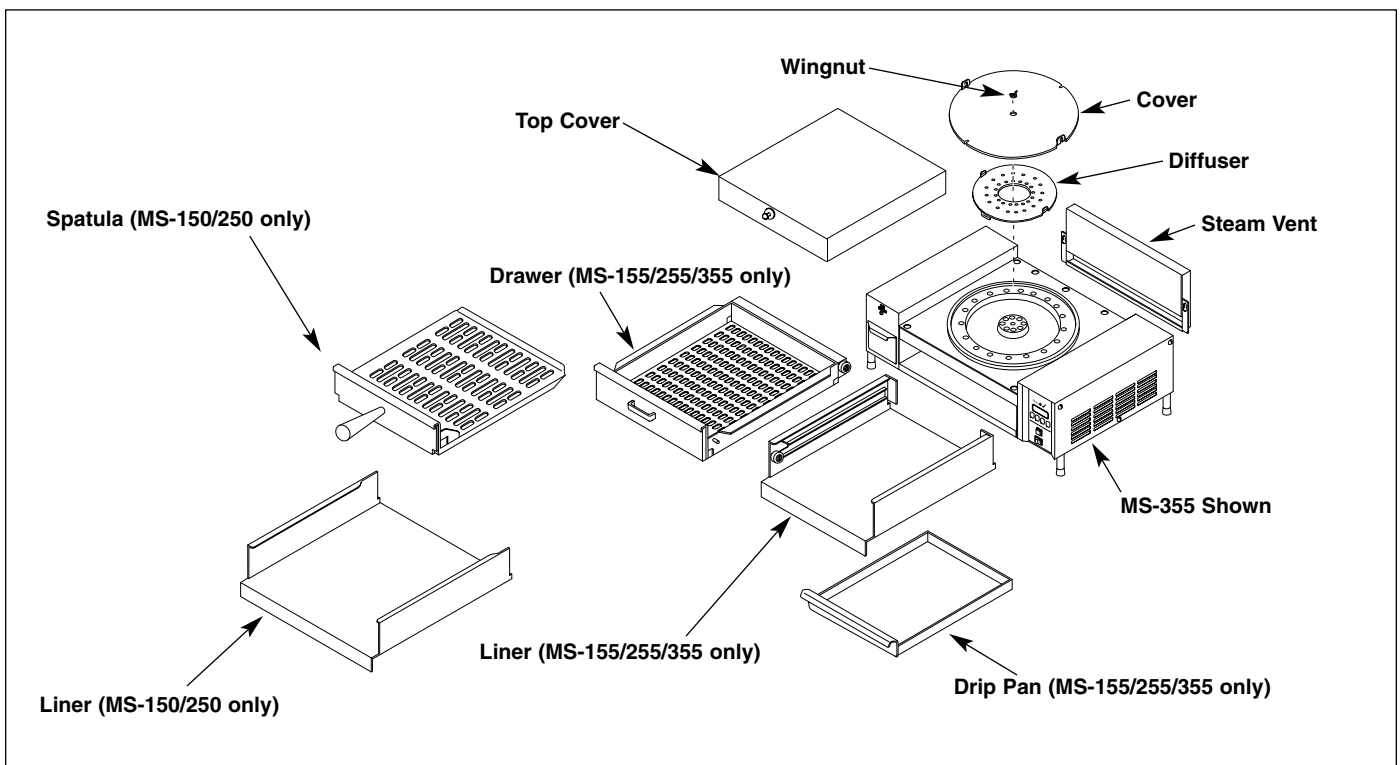

Figure 8. Miracle Steamer Components
3. Remove drawer (**MS-155/255 & 355**) or spatula trivet (**MS-150 & 250**) and liner (Figure 8).
4. Remove steam vent from rear of unit by sliding upward and away from unit (Figure 8). Clean the drawer/spatula and steam vent in hot detergent water, rinse in clear water and allow to air dry.
3. Remove wing nut and generator cover (Figure 8).